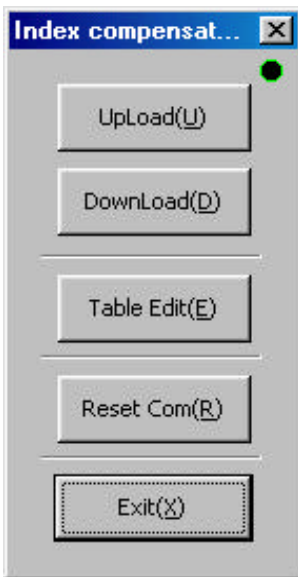

Figure 7.39 “Index compensation” dialog box
Click “*IndexTypeA (I)*” on “Index Menu” to display the “Index compensation” dialog box (see Figure 7.39).